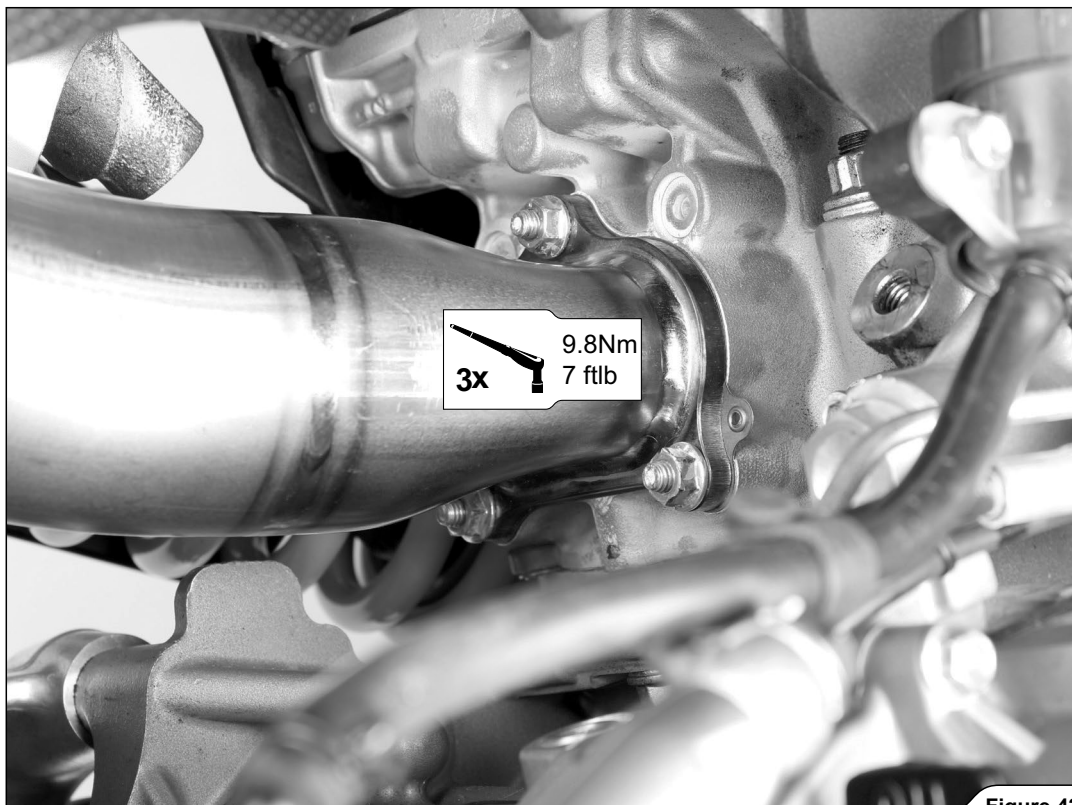

Figure 42
12. Tighten both headers to the specified torque (Figure 42, 43).